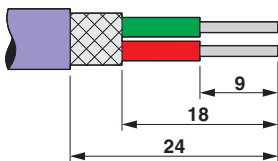

Figure 18 SUBCON-PLUS-PROFIB/AX with Push-in spring connection
- Strip off the conductors (see Figure 18).